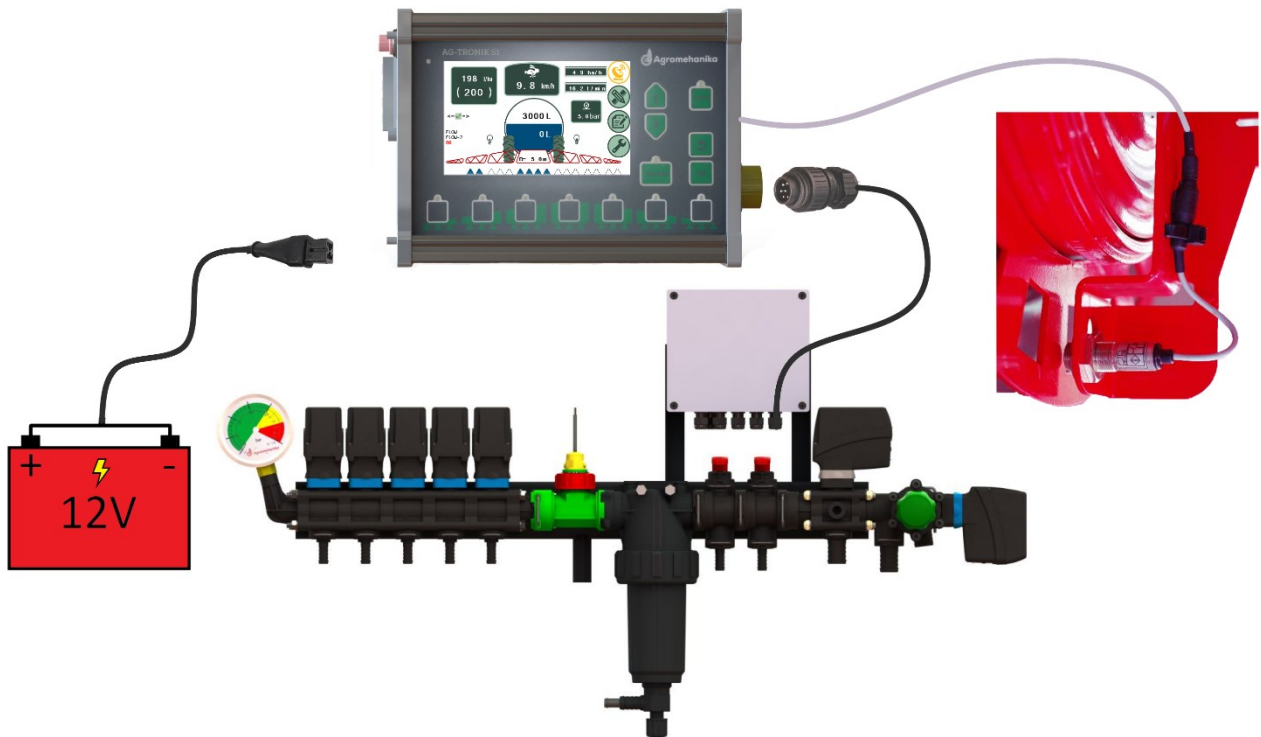

Figure 5
- Connect power supply in to the corresponding input of the AG-TRONIK (Figure 5).
- Connect regulator cable in to the corresponding input of the AG-TRONIK (Figure 5).
- Connect speed sensor in to the corresponding input of the AG-TRONIK (Figure 5).